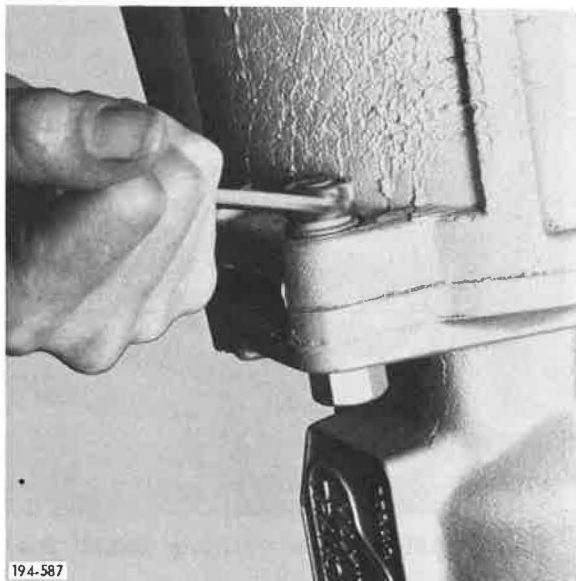

Figure 388. Installing Dowel Bolt
3. Align cases, and install main case to rear case dowel bolts and nuts, and tighten to 66 to 80 lb. ft. torque. Refer to Torque and Tolerance Table, Item 12. See Figure 388.